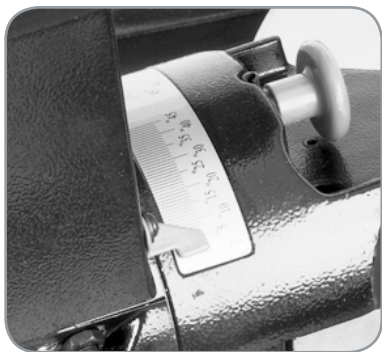

Fig. 11
- Ensure that the Cutting Head is upright, against its stop and the bevel pointer is indicating 0° on the scale. **(Fig. 11)**